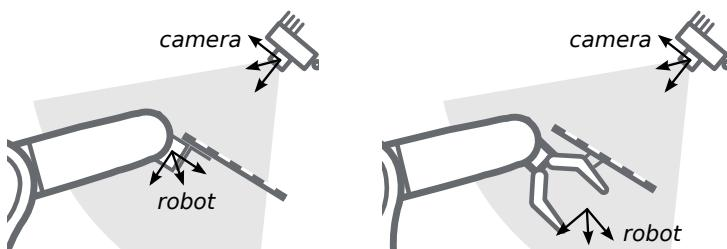

Fig. 6.7.3: Alternate mounting options for attaching the calibration grid to the robot
**Calibration with a statically-mounted sensor** In use cases where the *rc\_visard* is positioned statically w.r.t. the robot, the calibration grid needs to be mounted to the robot as shown for example in Fig. 6.7.2 and Fig. 6.7.3.
**Note:** The hand-eye calibration component is completely agnostic about the exact mounting and positioning of the calibration grid w.r.t. the user-defined *robot* frame. That is, the relative positioning of the calibration grid to that frame neither needs to be known, nor it is relevant for the calibration routine, as shown in Fig. 6.7.3.